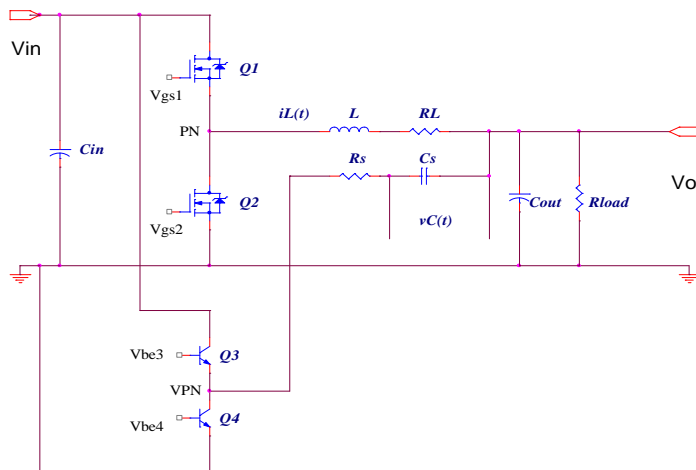

Fig.1 The Basic Structure of Combi-Sense.
The basic structure of the Combi-Sense is shown in Fig.1. Where R_L is the equivalent resistance of the output inductor. The added R_s and C_s form the RC branch in "parallel" with the output inductor for inductor current sensing. This branch works with a small signal totem pole (Q3 and Q4) integrated in SC4510 in order to improve the signal-to-noise ratio. The base signals Vbe3 and Vbe4 are designed to closely follow the gate signals Vgs1 and Vgs2, respectively. Ideally, the leading and falling edges of the Virtual Phase Node (VPN) follow that of the Phase Node (PH) when Q1~Q4 switch in perfect synchronism.
When Q1/Q3 turn ON and Q2/Q4 turn OFF, the equivalent circuit of Fig.1 is shown in Fig. 2a). Where, R_{ds1} is the on-resistance of the top MOSFET. The two branches, consisting of $\{(R_{ds1}+RL), L\}$ and $\{R_s, C_s\}$, are in parallel. The DC voltage drop $(R_{ds1}+RL)I_o$ equals V_{cs} . In this way, the output current is sensed from V_{cs} when $(R_{ds1}+RL)$ is known.
When Q1/Q3 turn OFF and Q2/Q4 turn ON, the equivalent circuit of Fig.1 becomes the sub-circuit as shown in Fig. 2b). Where R_{ds2} is the channel resistance of the bottom MOSFET. In this case, the branch $\{R_s, C_s\}$ is in parallel with $\{(R_{ds2}+RL), L\}$ and $V_{cs}=(R_{ds2}+RL)I_o$.
In SC4510, the current limiting is performed on cycle-by-cycle basis. When the voltage difference between CS+ and CS- exceeds 65 mV, the top MOSFET duty ratio is clipped in order to limit the output source current. Similarly, when the voltage difference between CS- and CS+ exceeds 113 mV, the bottom MOSFET duty ratio is clipped in order to limit the sink current. For the configuration in Fig.1, the convertor output current limit is set around